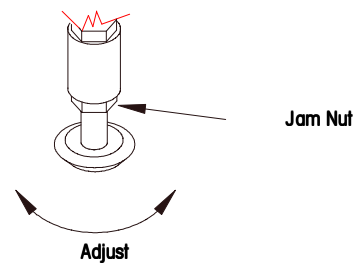

Figure 2-2
- Tighten the jam nuts on the feet to lock them in place. (Figure 2-2.)